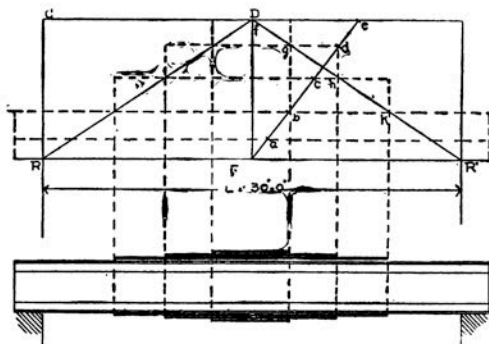

FIG. 15.
**Flanges reduced in Area towards the Supports.**—To reduce the area of the flanges as the ends are approached, draw the diagram Fig. 15, making  $R$  and  $R'$  equal to the span of 30